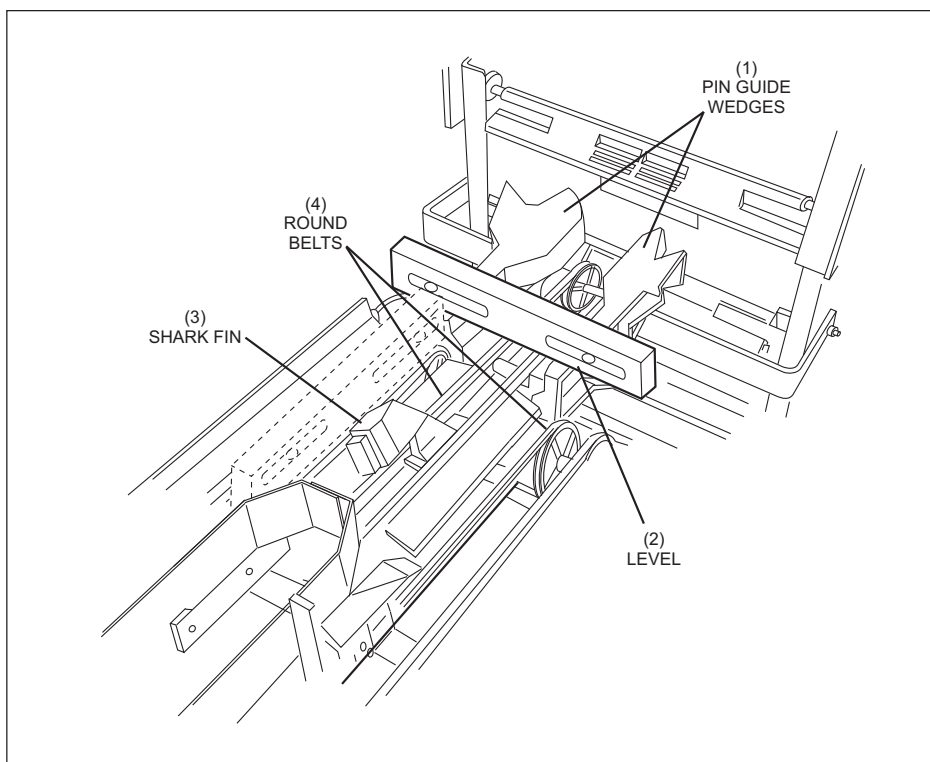

Figure 5-21. Shark Switch Leveling Adjustment - Side to Side.
- b. Adjust the shark assembly so that the pin turn wedges are level side to side and up slightly from back to front. (approximately 2 degrees or 1/2 bubble on the level). Refer to *Figure 5-21* and *Figure 5-22* to properly position the level and *Figure 5-20* for the adjustment location.
- (1) PIN GUIDE WEDGES
- (2) LEVEL
- (3) SHARK FIN
- (4) ROUND BELTS